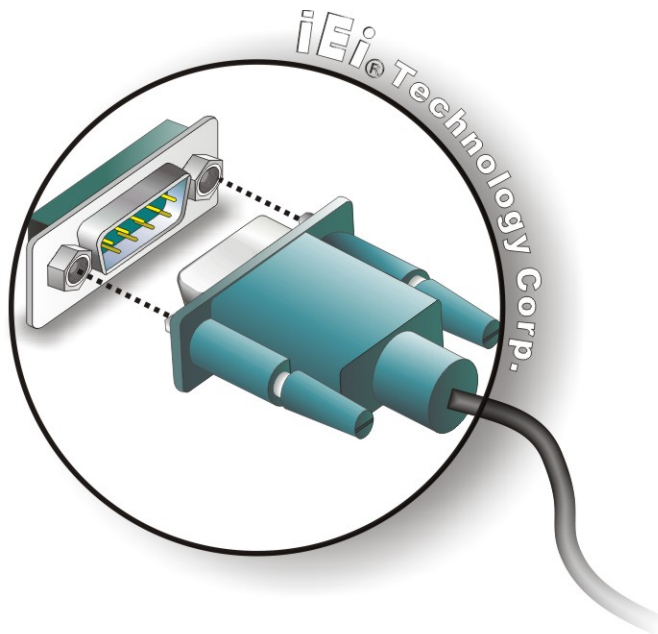

Figure 4-14: Serial Device Connector
Step 5: **Insert the serial connector.** Insert the DB-9 connector of a serial device into the DB-9 connector on the external peripheral interface. See **Figure 4-14.**